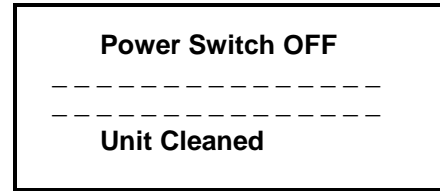

Figure 122
6. After 60 seconds or selecting a key to abort the Safety Timeout the POWER SWITCH OFF message will appear on the screen. (See Figure 122.)